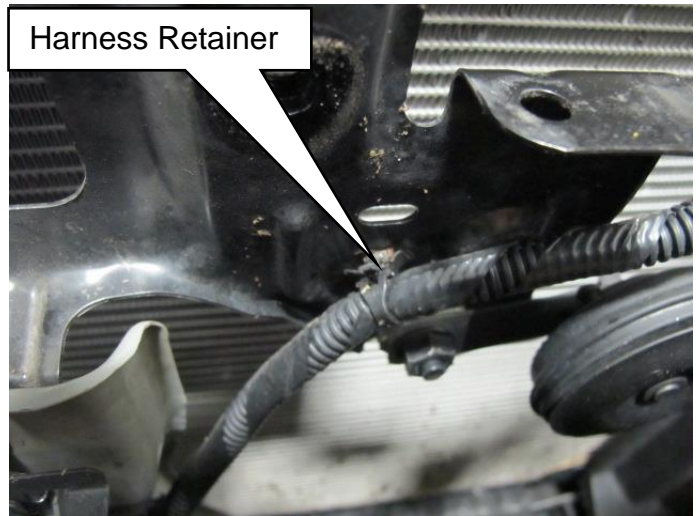

Figure 14
20. Unclip the crash zone sensor harness retainer from the front of the core support (Refer to Figure 14).